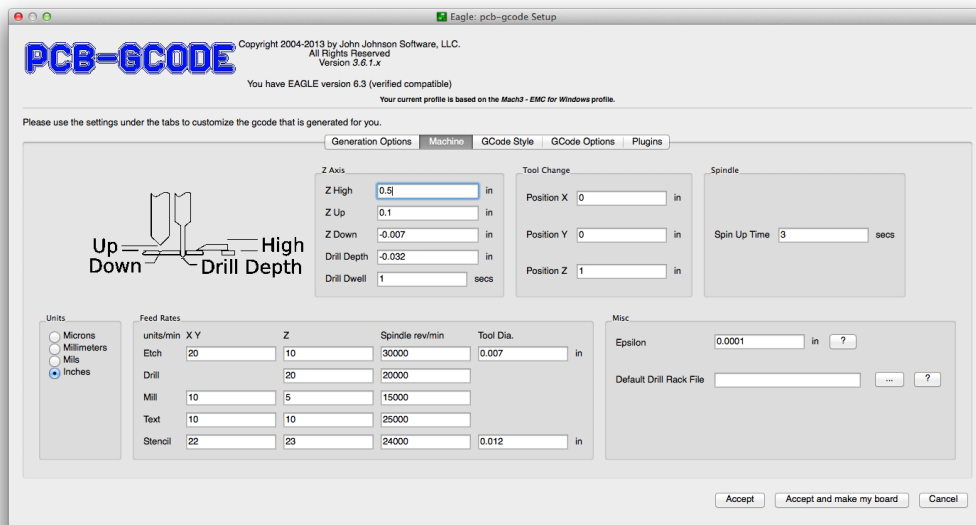

Figure 2.5: Machine options.
Click the Machine tab to view the machine options as shown in Figure 2.5 on the facing page. First select the preferred unit of measure by selecting it under Units.
**Generate milling** Generate g-code for any wires the user has drawn on the Milling (46) layer. Depth sets the milling depth.
**Etching Tool Size** The size of the cutter used to cut around tracks on the board. Note that this setting is also found under the Machine tab as the etching tool diameter, as seen in Figure 2.5 on page 9.